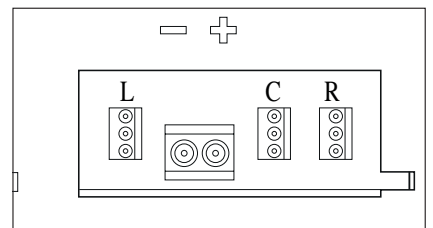
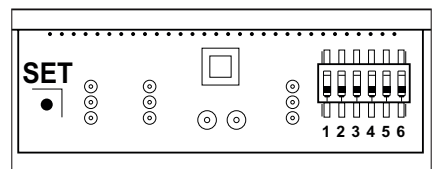

Fig. 1
Fig. 2
**STEP 2:** The triple tank diagram in Fig 1 shows L, C & R plugs are used. In Fig 2, switches 1 & 2 are used for L plug, 3 & 4 switches for C plug and 5 & 6 for R plug.